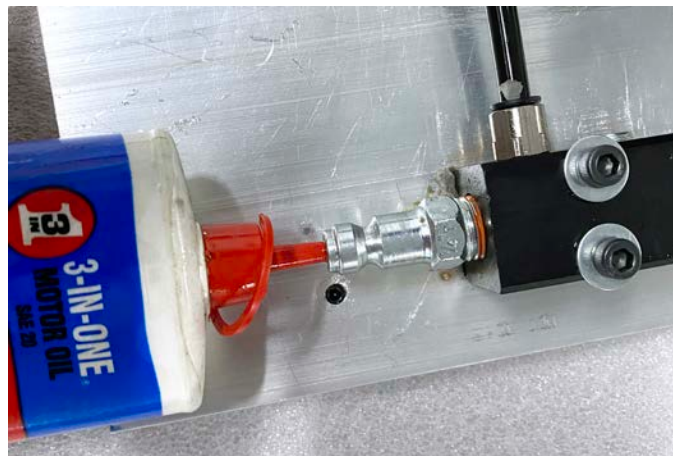

FIGURE 75—Option 1, adding oil at the air line filter.
A. Add oil at the air line fitting that the air hose connects to. However, oil that is added here will also go to the pneumatic cylinder that opens and closes the collet. It is alright to add oil to the pneumatic cylinder. However, if there is too much oil (or water) in the system, this will begin to spray out of the cylinder release ports whenever it is activated (see Figure 75).